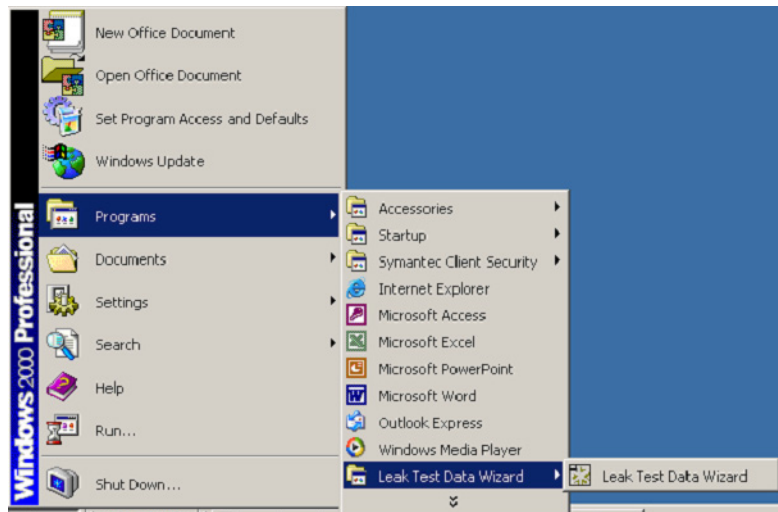

Figure 1-6 Leak Test Data Wizard Icon
5. Open the program by clicking on the *Leak Test Data Wizard* icon (Figure 1-6).